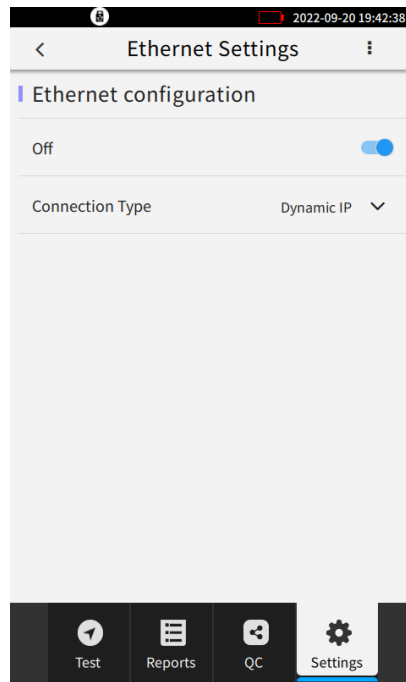

Figure: 3-16
**【Ethernet setting】** Turn on/off the button. There are two connection types, namely Dynamic IP and Static IP, as shown in figure 3-16